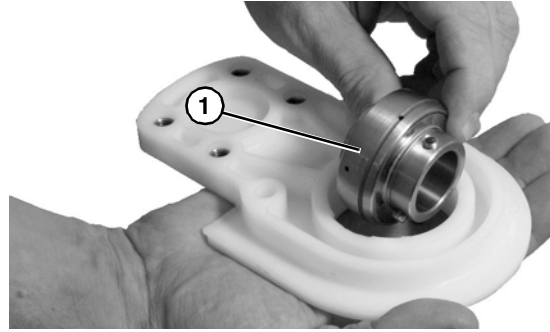

Figure 65
2. Twist the bearing out (Figure 65, item 1).